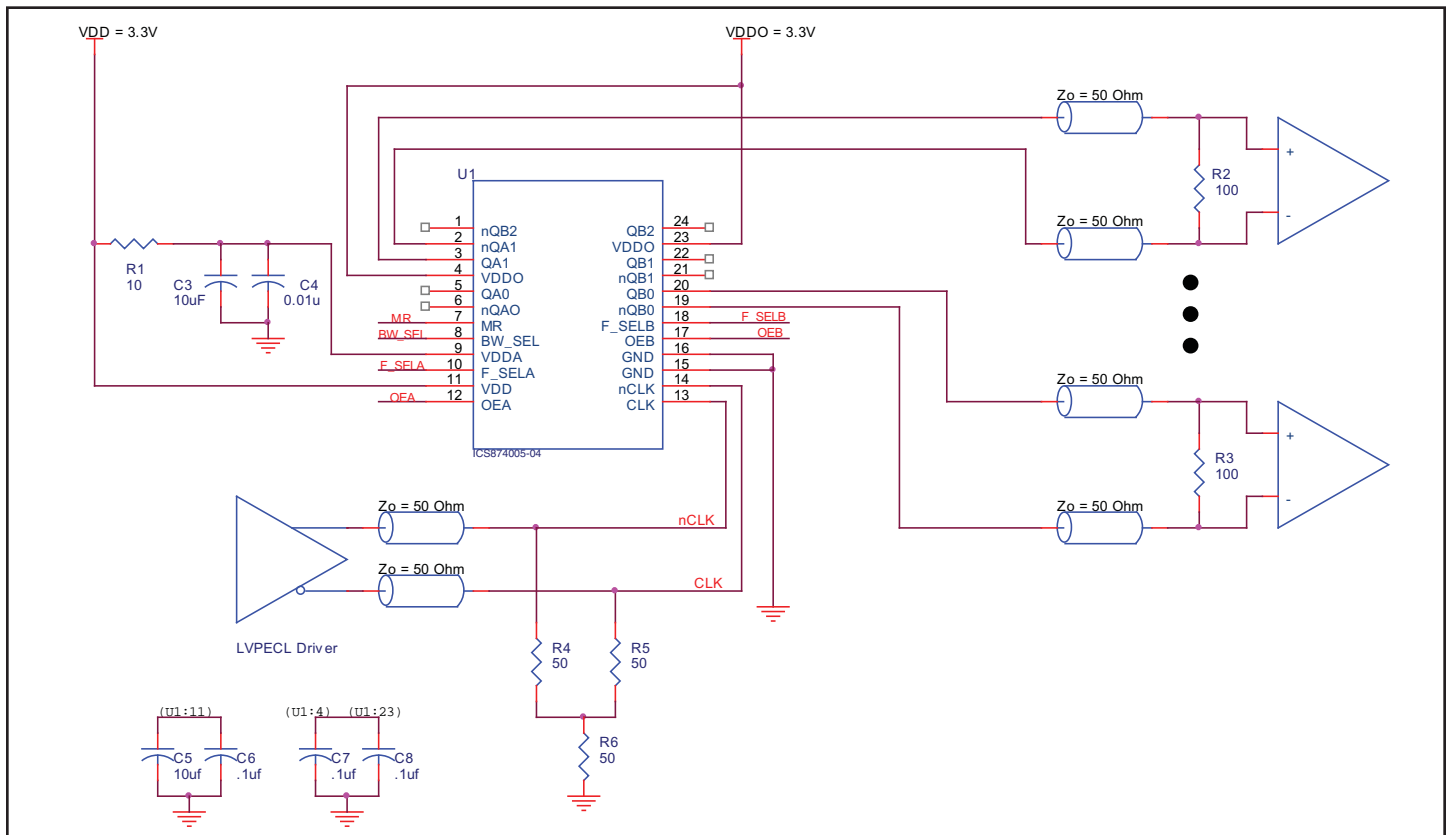

FIGURE 5. 874005-04 SCHEMATIC EXAMPLE
*Figure 5* shows an example of 874005-04 application schematic. In this example, the device is operated at  $V_{DD} = 3.3V$ . The